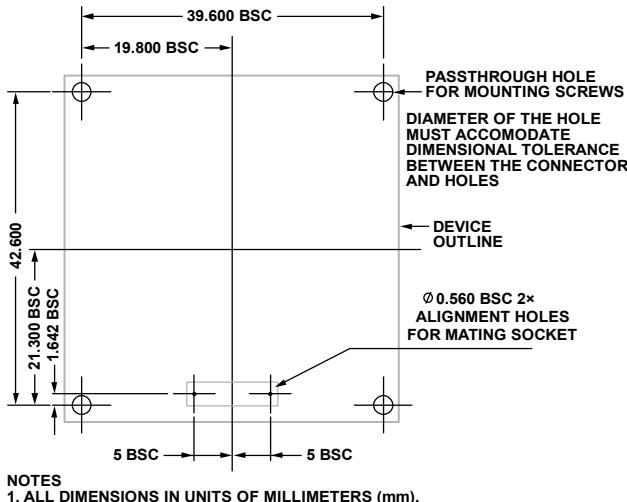
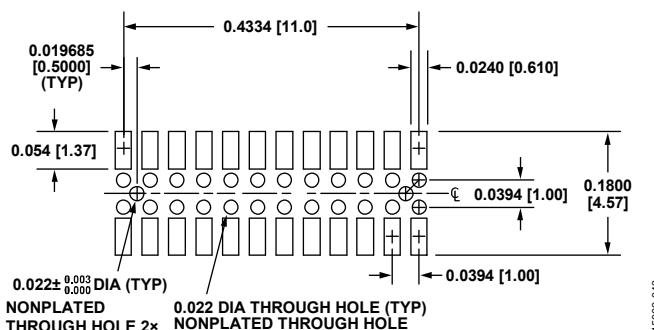

Figure 46. Suggested PCB Layout Pattern, Connector Down
Figure 47. Suggested Layout and Mechanical Design when Using Samtec CLM-112-02-G-D-A for the Mating Connector
- When the ADIS16495 rests on the PCB, which contains the mating connector (see Figure 46), use a diameter of at least 2.85 mm for the passthrough holes.
Figure 46 and Figure 47 provide details for mounting hole and connector alignment pin drill locations.